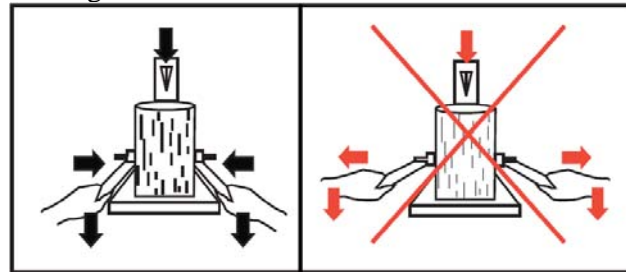

Fig.17 : c) Hold log with clamping brackets
c) Hold the log with clamping brackets closely in the control lever guards (Fig.17).